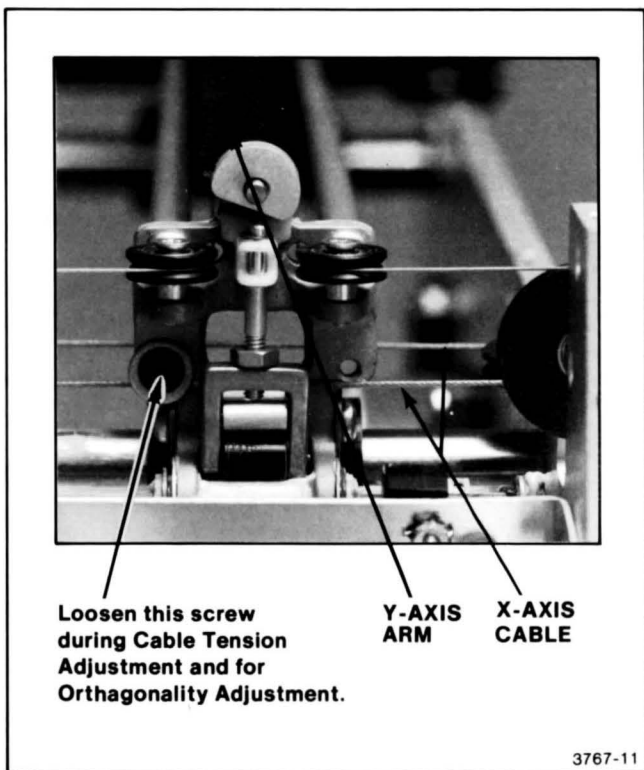

Figure 2-5. X-Axis Securing Screw.
2. **Loosen** (but do not remove) the hex-socket cap screw (use a 5/64" allen wrench) that holds the X-axis cable to the front end of the Y-axis arm (see Figure 2-5). This screw is accessible by looking under the front panel and moving the Y-axis arm past either end of the Front Panel circuit board (for example, just to the left of the joystick).
9. **Ensure** that the X-axis cable passes between the washer on the cable securing screw and the Y-axis arm end casting (see Figure 2-5). Then, lightly tighten the cable securing screw. This screw will be loosened again in a later step.